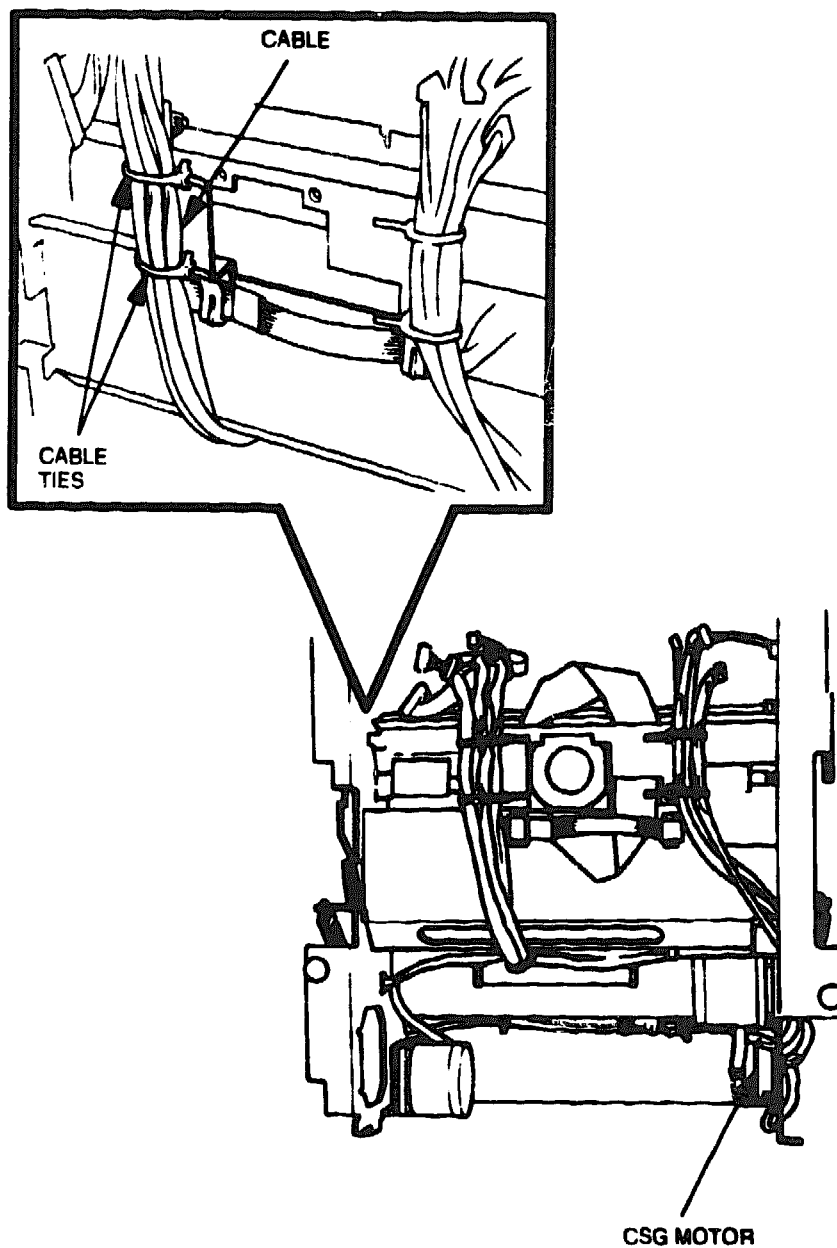

Figure 6-85 Lower Base Plate Cable Ties
1. Remove the mechanism unit and place it on its side on the worktable to access the bottom of the unit (see Figure 6-85).
2. Remove the cable shown in Figure 6-85 from the cable ties on the lower base plate.